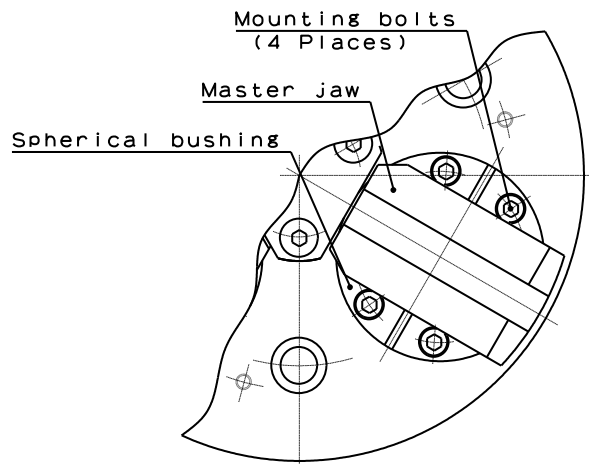

Fig.4-2
- ①Remove the jaw and T-nut.
- ②Remove the locator and other jigs from the chuck surface.
- ③Remove the mounting bolts of spherical bushing surface. (See Fig.4-2)